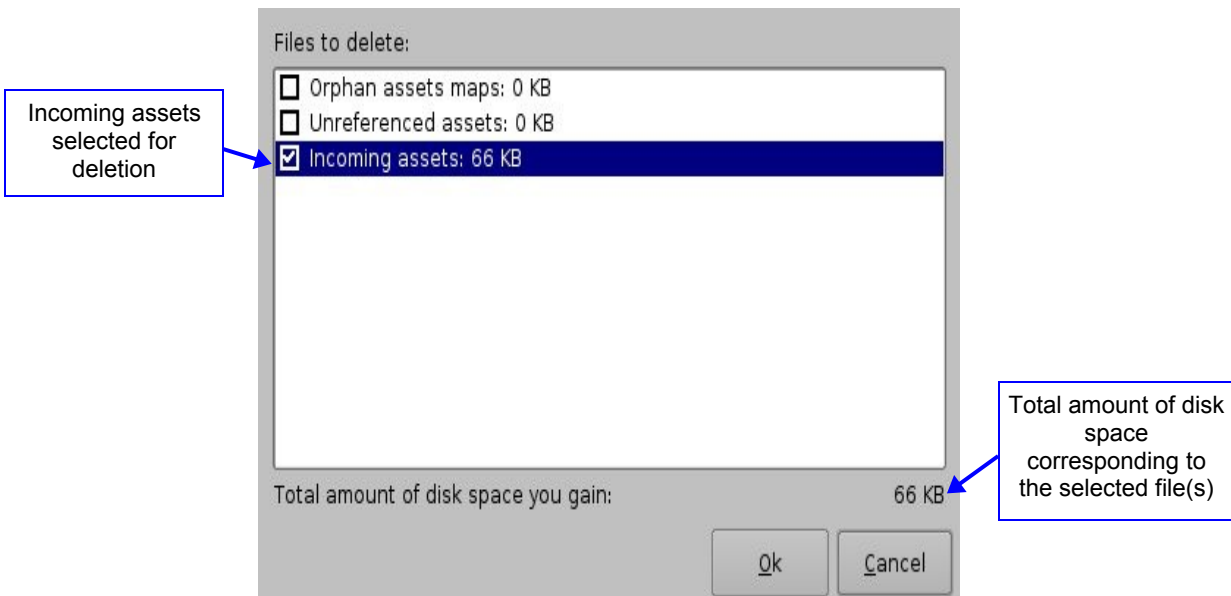

Figure 18: Disk Cleanup Window – Files Selected
- Select the file(s) to delete by checking the associated check-box. The total amount of space that will be gained is indicated on the bottom-right corner of the window (Figure 18).